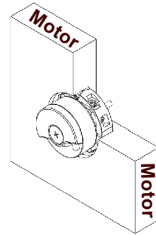

Figure 3-6
- 4) Install the front cover of the encoder. The installation is complete, as shown in Figure 3-6.